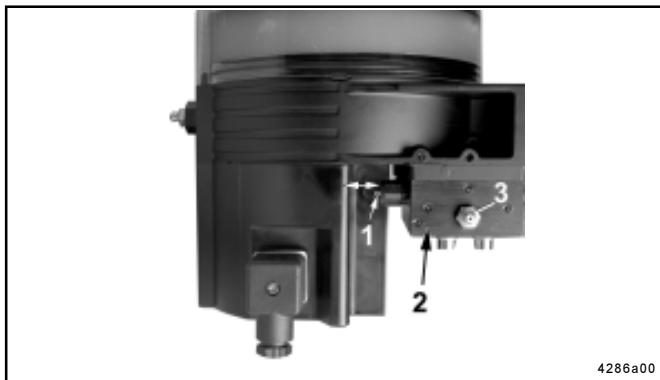

Fig. 12 - QLS 321 with back position of the SSV divider block
- SSV divider block mounted on the back (see fig. 12)
- If this is the case, trigger an additional lubrication and observe the control pin on the divider block (fig. 12). If the control pin does not move, either the system is blocked or the reservoir is empty, see fault indication "LL" on the display.